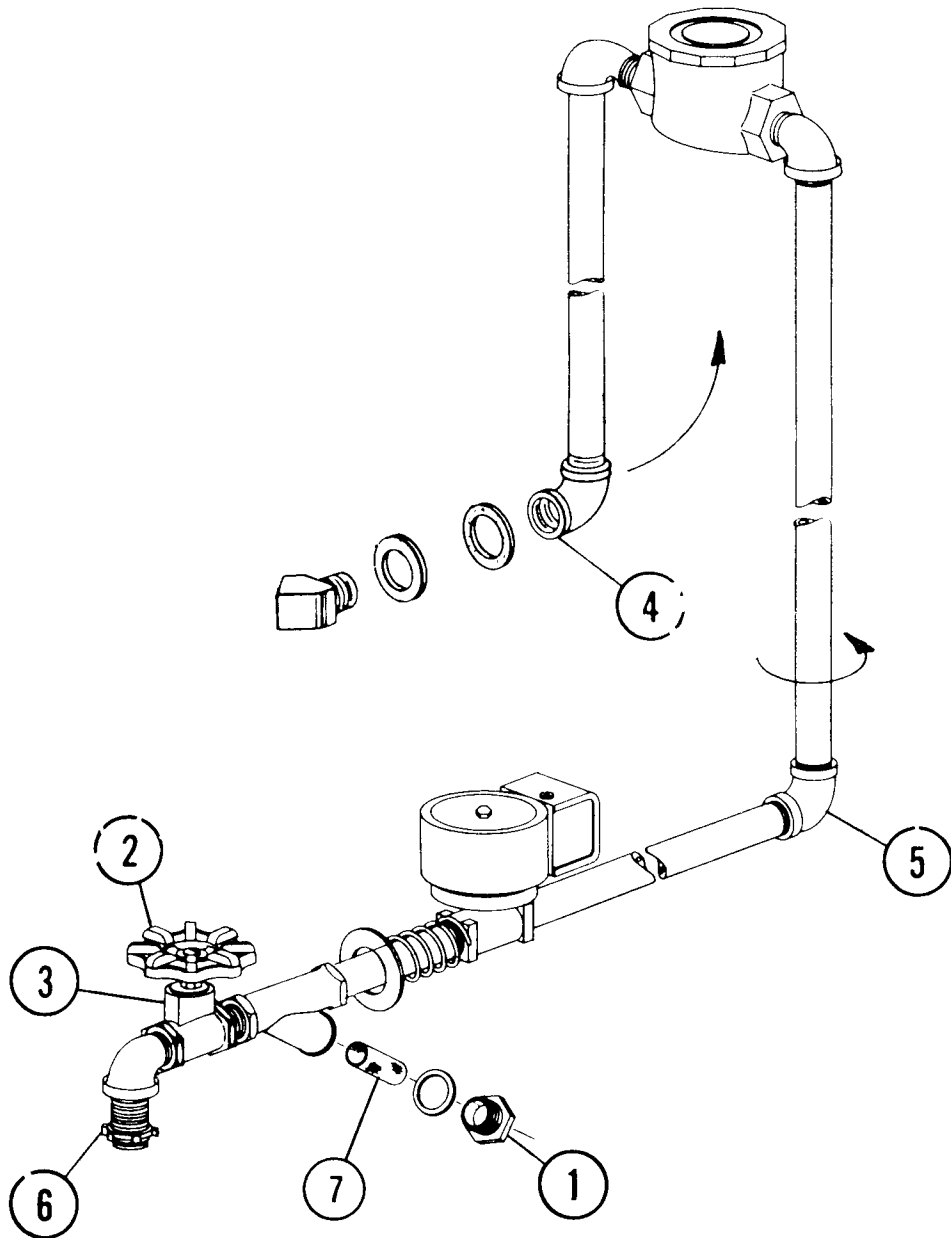

Figure 7.5
7.5.0 FRESH WATER PLUMBING (See Figure 7.5)
2. Remove screw (1) and lift off solenoid.
3. Unscrew valve bonnet (2) using spanner or channel-locks. Insure that valve body (3) is held firmly to prevent damage to plumbing.
4. Remove bonnet (2), O-Ring (4) and Diaphragm (5).
5. Clean screen (6) and valve body.
6. Inspect bleeder holes (7) for plugging and diaphragm for damage.
8. Clean strainer screen (7). (See Figure 7.5)
7.5.6 Plumbing Removal (See Figure 7.5)